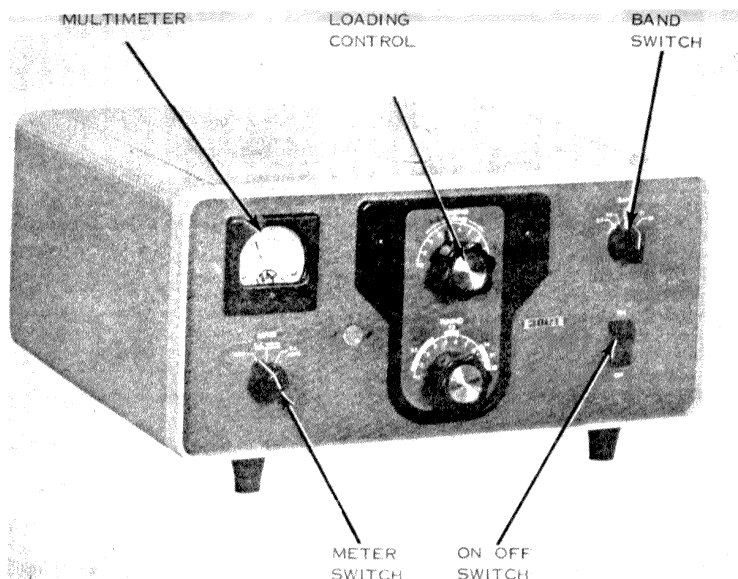

Figure 11-4. Collins 30L-1, operating controls.
b. Be sure the ON-OFF switch in the Collins 30L-1 is in the OFF position (fig. 11-4).